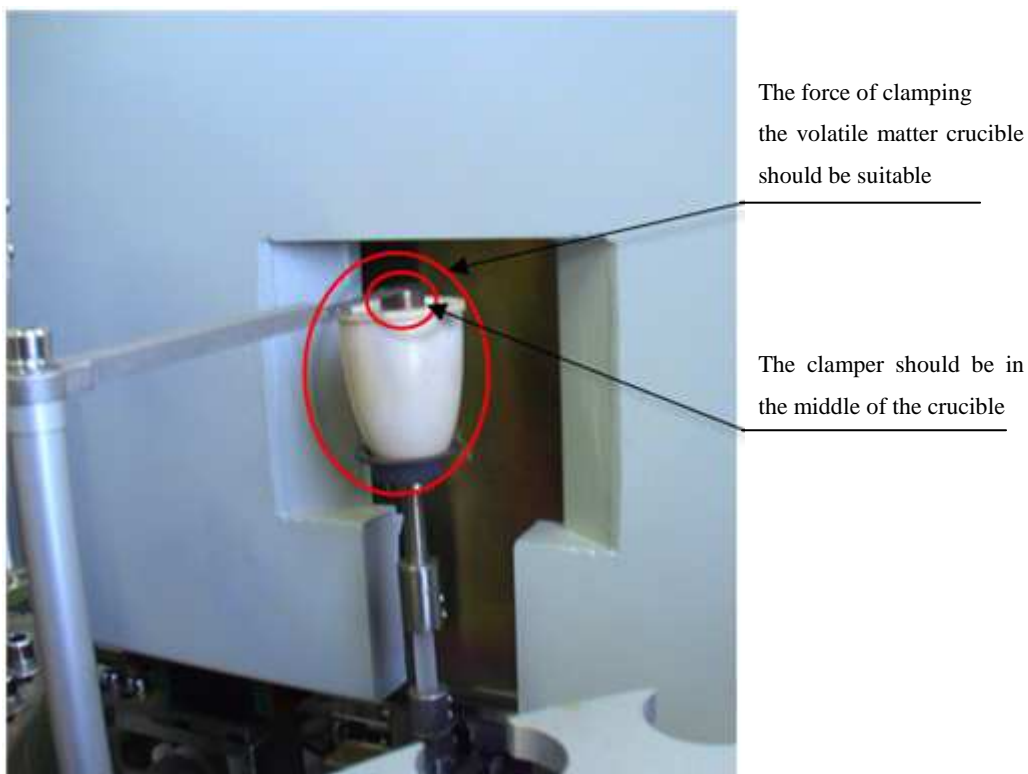

Fig.3-23
- 6) Adjust the height and position of the manipulator crucible holding device. When the manipulator lifts up, the hold-up tension of the volatile crucible needs to be exactly fit and the holding sheet to be located in the middle of the crucible cover. The manipulator clamping rod should be kept in the center of the sample introducing mouth of the low-temperature furnace. Shown as fig.3-23.